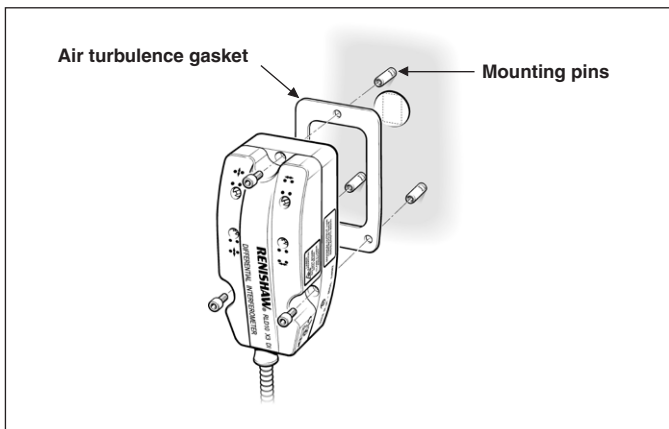

Figure 48 – Air turbulence gasket
13. To minimise the effects of air turbulence, fit the air turbulence gasket over the three pins as shown in Figure 48.